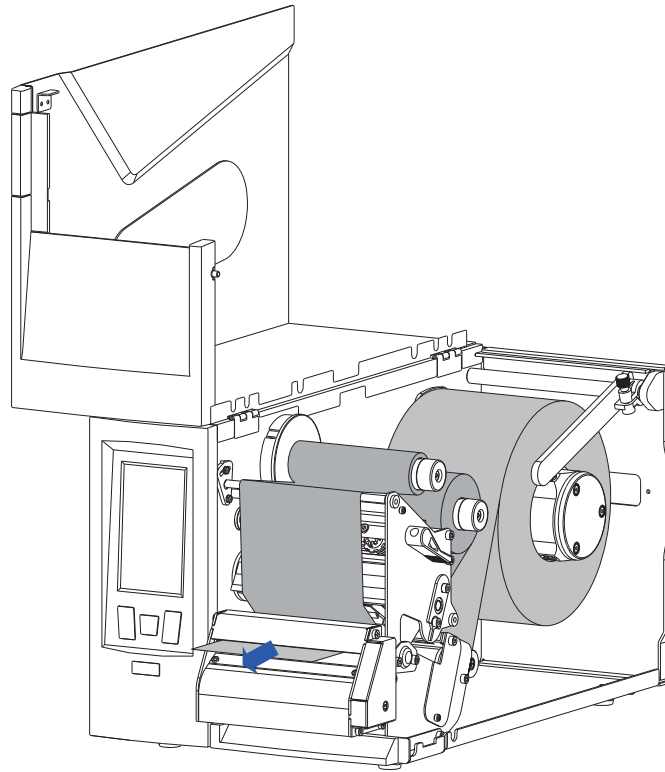

Figure 2-23 Load the Media
2. Refer to the Media Path as shown in Figure 2-5. Thread the media through the opening on the cutter as shown in Figure 2-23.